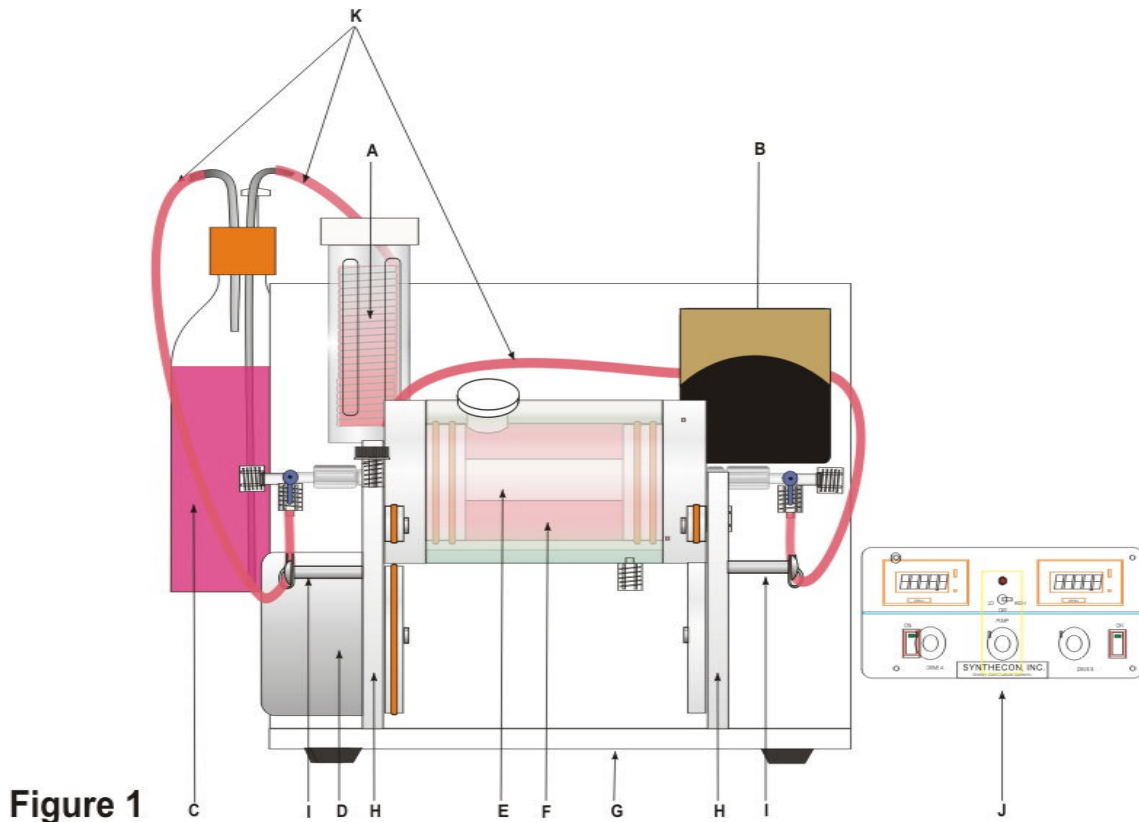

Figure 1
The RCMW™ is composed of the following components shown in Figure 1.
- ☒ **Do not** autoclave the rotator base/upright assembly (see Figure 1). Table 1 lists those components that can be autoclaved.
Please refer to Figure 1 for proper identification of parts to facilitate disassembly. Remove the following items to wash and autoclave or for replacement with pre-sterilized components *before initializing* a sterile cell culture in the RCMW
Refer to Figure 1 for guidance in re-assembly.
To complete assembly of the culture vessel prior to filling with media, attach the autoclaved oxygenator assembly and tubing as shown in figure 1